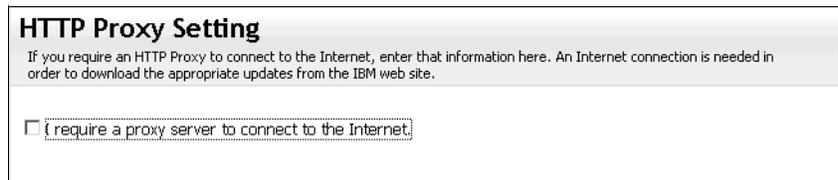

Figure 6-17 UXSPI HTTP Proxy Settings panel
- Enter the settings for an HTTP proxy server, if necessary, or leave the check box clear, as shown in Figure 6-17. Then, click **Next**.